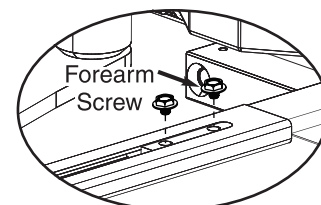

Figure 24
6. While holding arm in position, secure forearm to adjusting tube with forearm screw. (Figure 24)